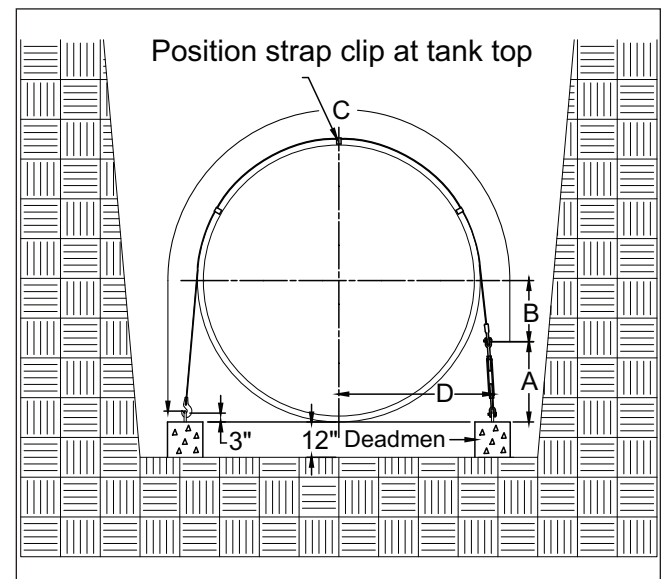

FIGURE 8-1
8.2.2.1. When installing any size tank, and when using Xerxes' D-ring/hook anchor straps and Xerxes' prefabricated deadmen, the deadmen are to be placed so that the top of the deadmen is even with the bottom of the tank. See FIGURE 8-1 and TABLE 8-1 for anchor-point dimensions.
Anchoring Dimensions for FIGURE 8-1
8.3.5. Locate the anchor points as shown in FIGURE 8-1 or 8-2 (whichever is applicable) and TABLE 8-1 or 8-2 (whichever is
8.5.2. For placement of Xerxes prefabricated deadmen, see *FIGURE 8-1* or *8-2* (whichever is applicable) and the Xerxes supplement, *Prefabricated Deadmen Installation Instructions*.